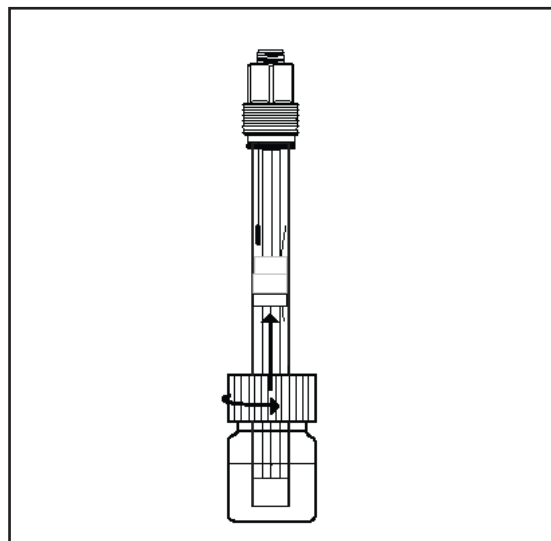

FIG. 1
- 1) Remove the storage bottle by rotating the cap counter clockwise until it is free of the bottle. (SEE FIG 1) Remove the sealing o-ring and bottle and set aside for later storage (if required)